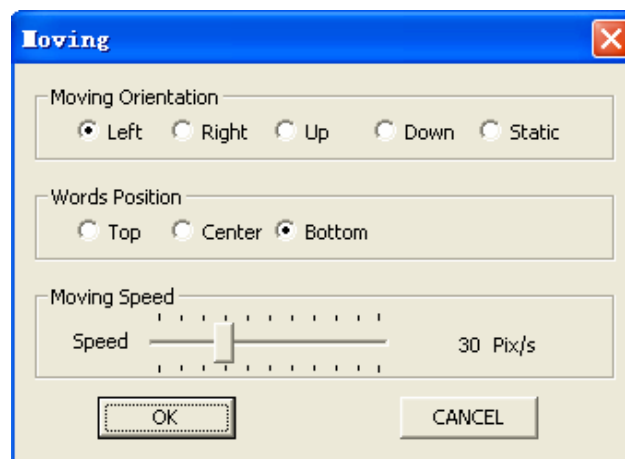

Figure 27 The moving mode of the words
2. Set the moving mode of the message: click on the "moving" key and will see a dialog as shown in Figure 27. after finishing the settings, clicking on "OK" to apply, or "Cancel" to give up. There are the following three settings:
- ① Moving Orientation: there are five orientations, Left (The message is moving from right to left), Right (Moving from left to right), Up (Moving from down to up), Down (Moving from up to down), Static (The text is static).
- ② Character Position: Top (The message is displayed on the top of the screen), Center (Displayed on the center of the screen), Bottom (Displayed on the bottom of the screen).
- ③ Moving speed: the moving speed of the message can be changed by dragging the sliding strip, the Minimum and Max. speed is 1 Pix/s and 100 Pix/s. respectively.